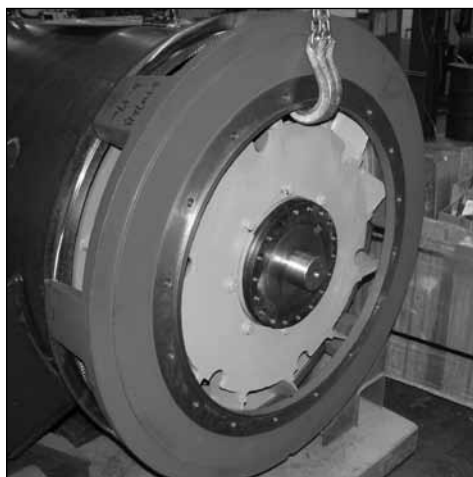

Figure 6-59
3. a. For single bearing generators, slide the SAE adapter over the fan and secure to the main stator and frame assembly with capscrews torqued per section 12 (Figure 6-59 and 6-60). It may be necessary to raise the rotor assembly slightly to allow the mounting of the SAE adapter.